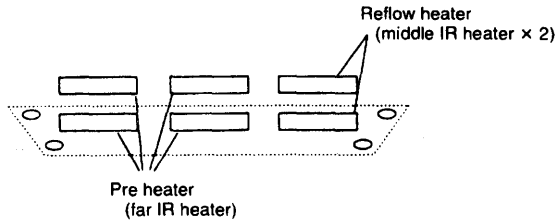

Figure II-9h. IR Reflow Equipment
1) Middle/far IR and both side heaters should be used. (See Figure II-9h.)